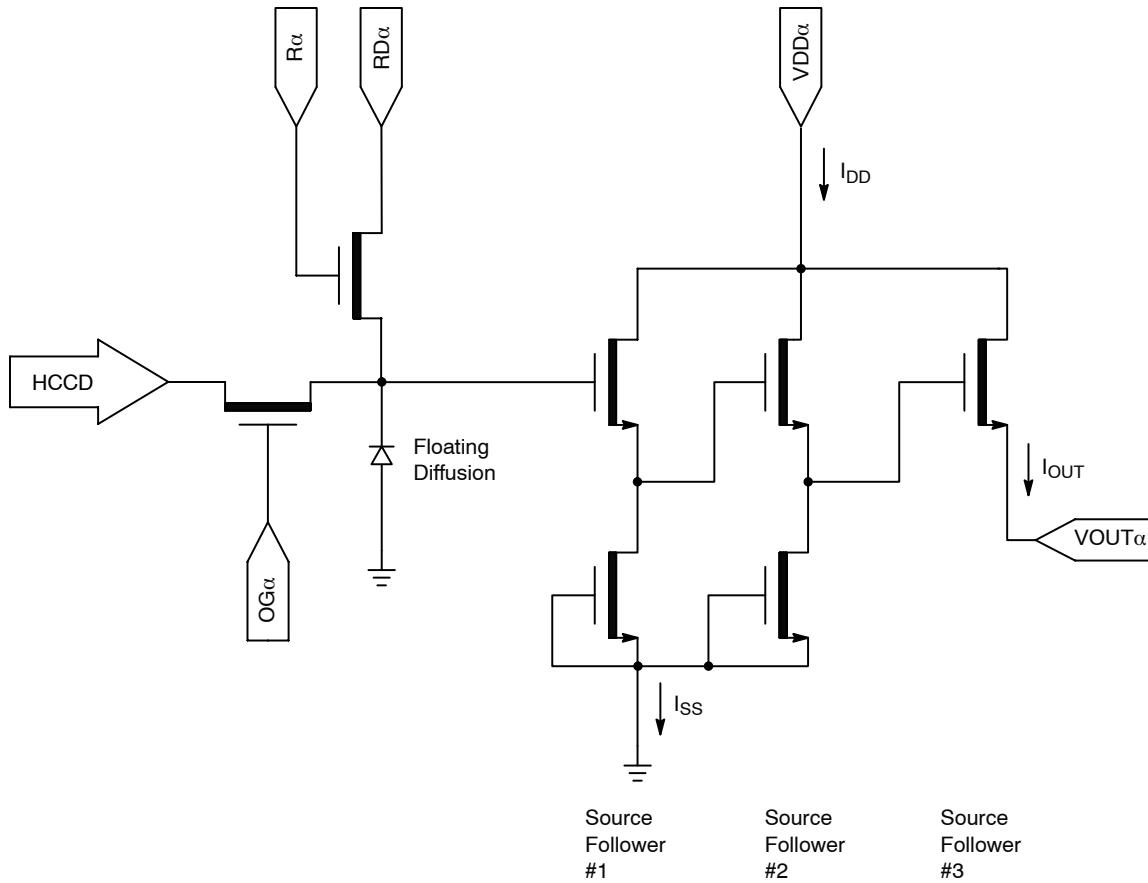

Figure 20. Output Amplifier
- The maximum DC current is for one output.  $I_{DD} = I_{OUT} + I_{SS}$ . See Figure 20.